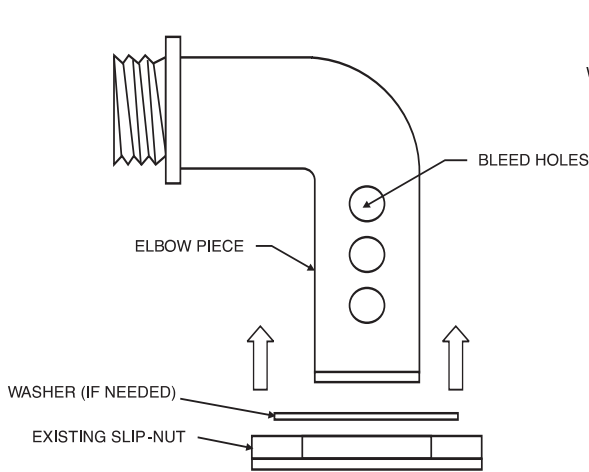

FIGURE 2
2. Remove the slip nut holding the "eyeball" in place from the inlet nearest the shallow end. Select one of the washers (9 or 10) that best fits into the threaded part of the slip nut. Insert the elbow piece (8) throught the opening in the washer and t hen through the slip nut (Fig. 2). Some smaller inlets will not require a washer. This is your inlet adapter.